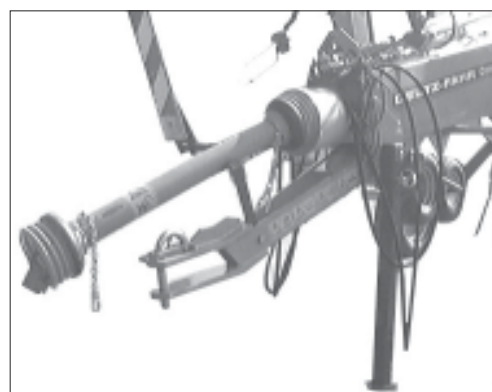

Fig. 3-21
- Remove the fixing pin from the drawbar and unhook the implement (fig. 3-21).